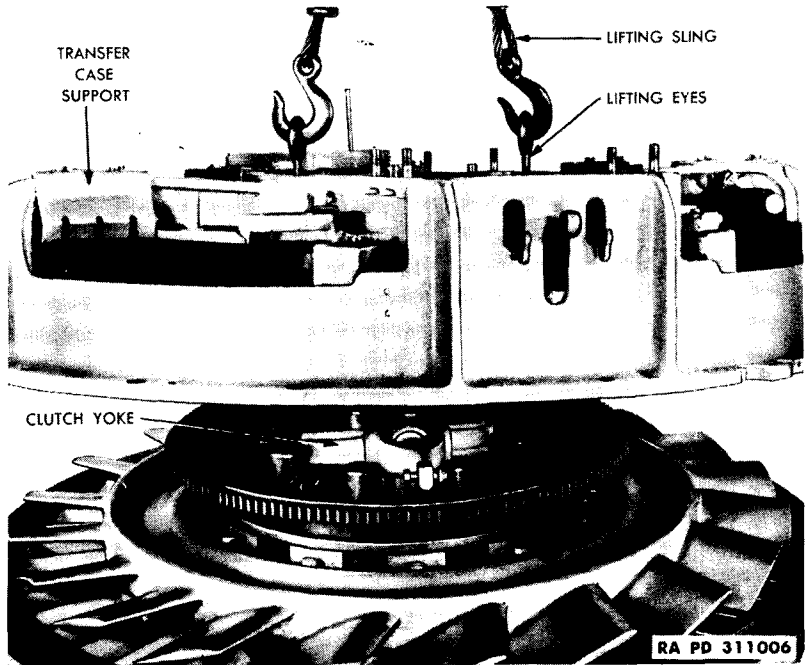

Figure 5 — Removing Transfer Case Support, Using Sling 5A2228 and Eyes 5A2318
b. **Remove Clutch Controls and Oil Cooler** (fig. 5). Remove elastic stop nuts and bolts which hold transfer case support assembly to engine front support. Remove clutch release arm pin retaining cap-screws and withdraw the pins far enough to free the clutch yoke assembly. Using lifting eyes (5A2317) on the transfer case mounting studs, lift transfer case support and oil cooler as a unit. Lift off the clutch control assembly.